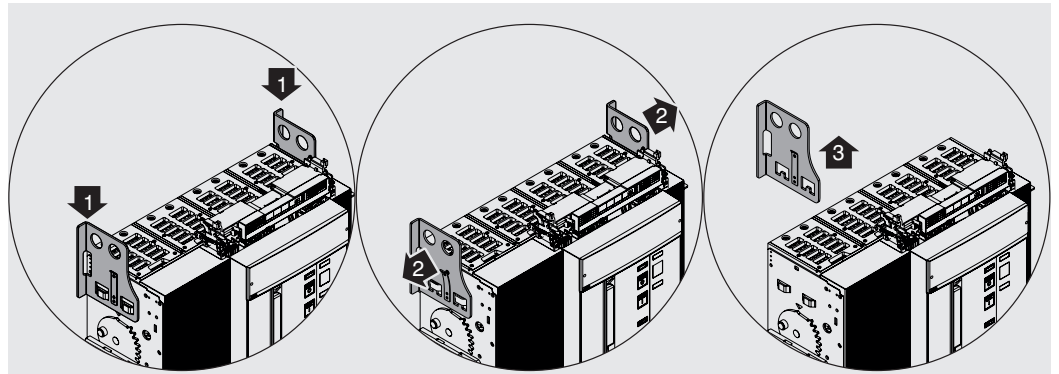

Figure 40
5. Unlatch the tongue and remove the lifting plates from the moving part. See Figure 40.